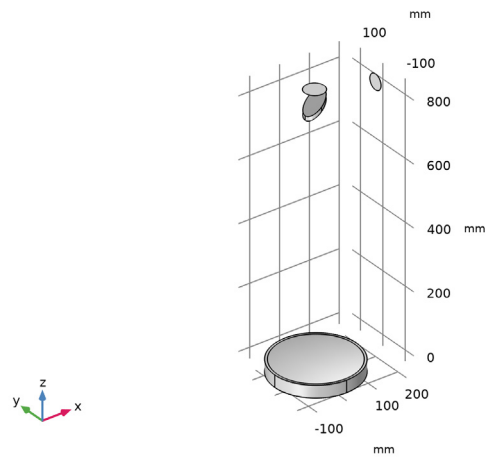

Figure 1: The Newtonian telescope geometry.
The telescope geometry (see Figure 1) comprises two mirrors and two circular annuli. The primary mirror is a paraboloidal (conic constant $k = -1$) and has a radius of curvature of 2.0 m. The primary mirror has a clear aperture slightly larger than the nominal 250 mm entrance pupil diameter. This gives the telescope a 1.0 m focal length with an $f/4$ focal ratio. The secondary mirror is folded at 45.0° , and it is elliptically shaped so that the obstruction can be minimized. An offset is applied to the axis of the fold mirror so that the incident cone of rays is centered on the mirror. The fold is sized so as to permit a telescope field of view of ± 30 arcminutes. The first circular annulus is placed ahead of the secondary mirror to emulate the obstruction by mount for this mirror. The second annulus is placed at the folded focal plane.
- 8 Click the  **Zoom Extents** button in the **Graphics** toolbar. Compare the resulting geometry to Figure 1.